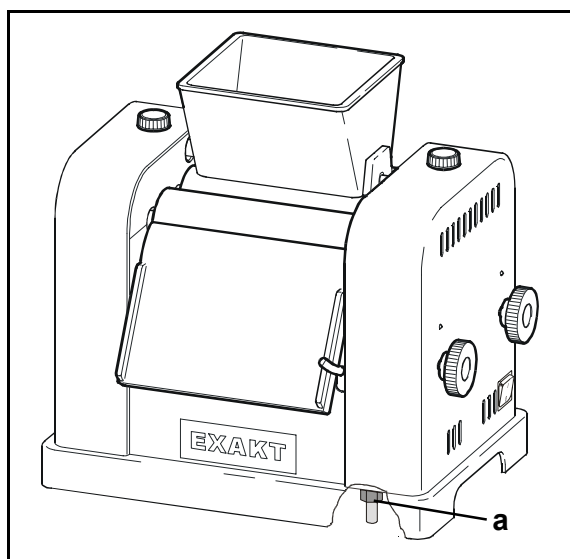

Fig. 22: Adjusting the contact pressure
The contact pressure of the scraper system is controlled by an adjustable tension spring. The contact pressure is adjusted with a tensioning nut (see Fig. 22/a).
- Increase contact pressure: Turn the tensioning nut (Fig. 22/a) clockwise.
- Decrease contact pressure: Turn the tensioning nut (Fig. 22/a) counterclockwise.